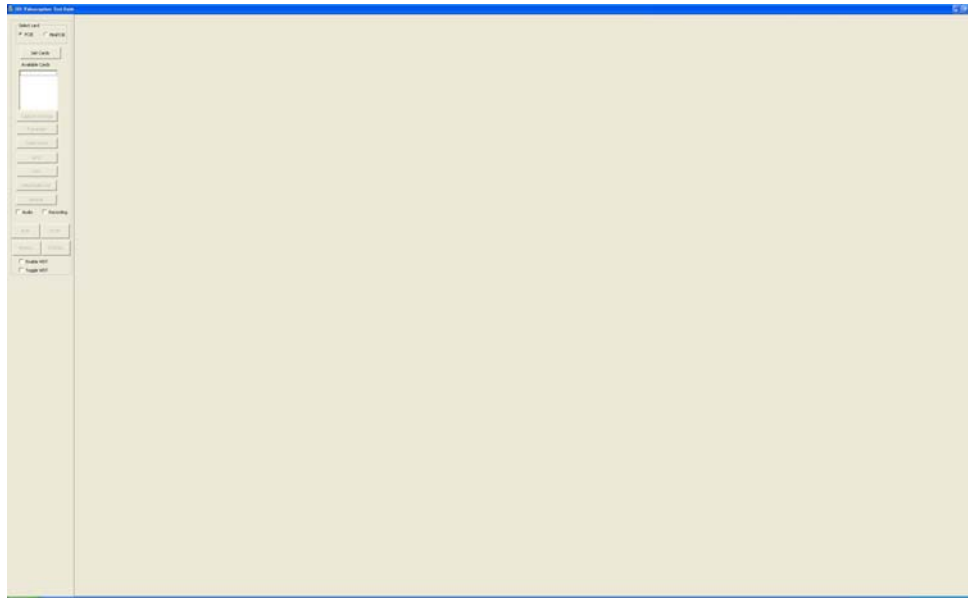

Figure 6-13: IEI Video Capture Test Suite
- Step 1:** Launch the Test Suite by double clicking the desktop icon . The window in **Figure 6-13** appears. The setting buttons are on the left side panel of the interface.